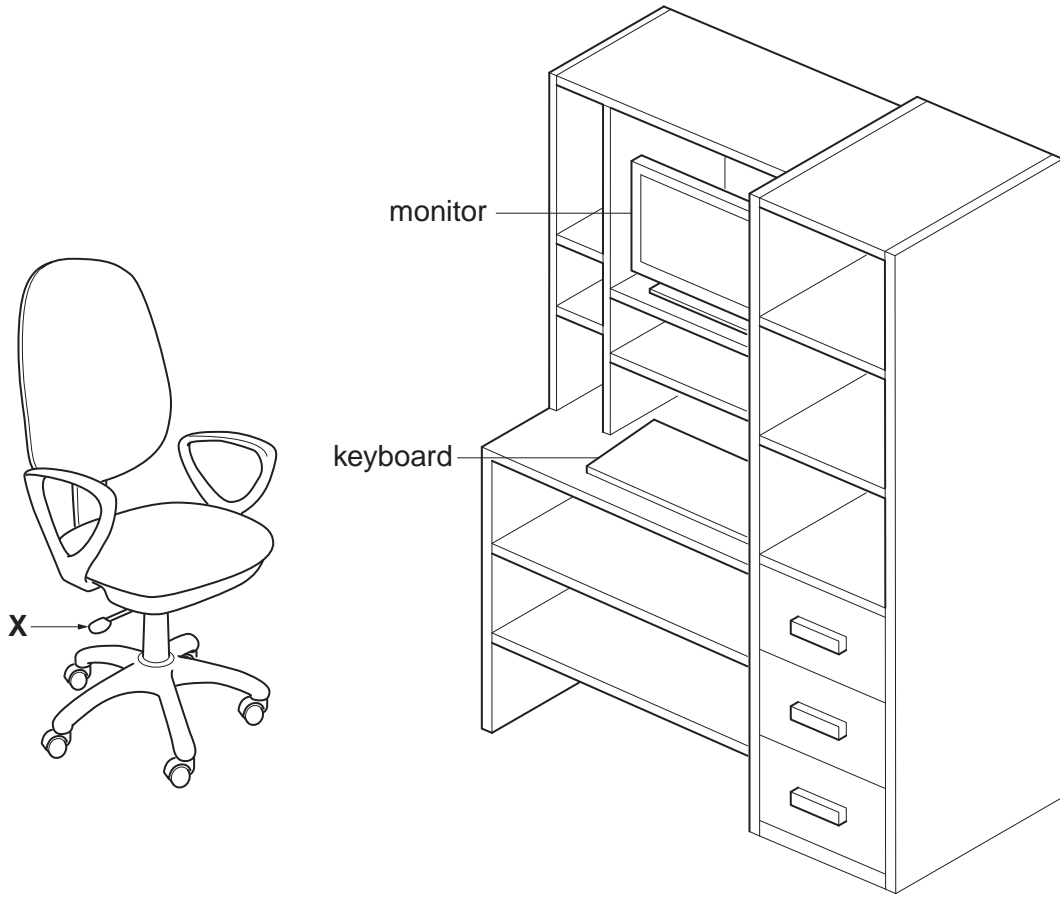

Fig. 6
5 Fig. 6 shows an office chair, and a proposed design for a desk to be used with the chair.
- (d) Discuss how the design of the chair shown in Fig. 6 has been influenced by its intended use.